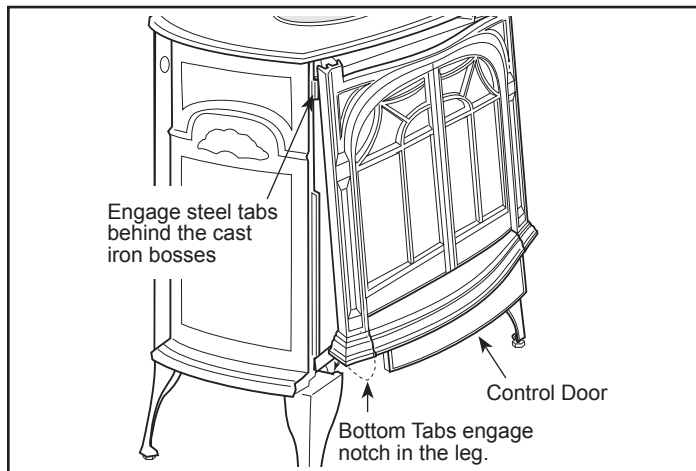

Figure 12 - Install the Front Plate. Your Front may look different from that shown.
2. Grasp the front plate by the window bars and lift into position engaging the two steel tabs behind the adjacent bosses in the side plates. (Figure 12) Seat the front against the sides so the tabs at the bottom lip engage with the notches in the stove legs.